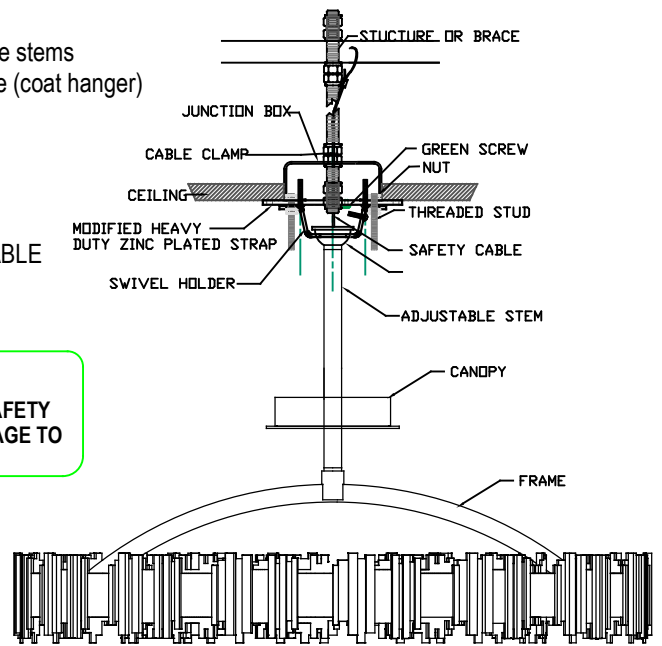

FIGURE-02
- Hang the fixture to the swivel holder. Make sure to fit the groove of the swivel ball to the tongue of the swivel holder. Then attach the SAFETY CABLE to the building or structure or brace. (See figure-02)